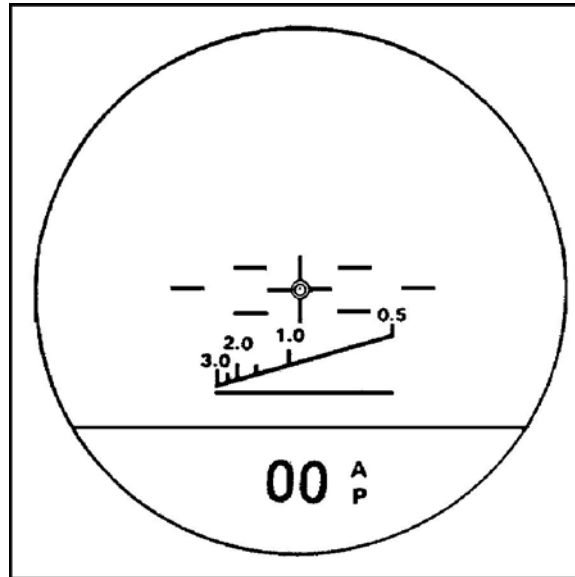

Figure 3. Status indicator.
7. Check the status indicator on the AP reticle and adjust reticle brightness (Figure 3).